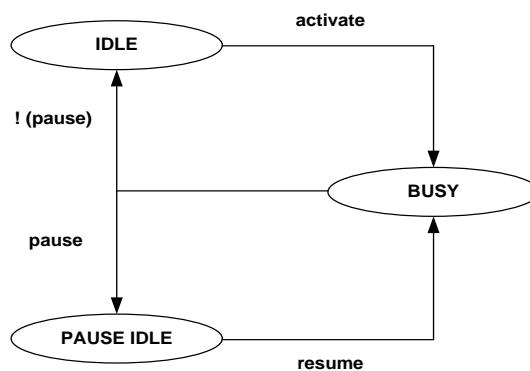

Figure 6.1-2. Operation flow with or without PAUSE mode
- Unlimited length for transmission can be achieved in Pause mode. In Pause mode, the CS signal will stay active (low) after the transmission. During this period, the SPI controller will be in PAUSE_IDLE state, ready to receive the resume command. Figure 6.1-2 is the state transition diagram.